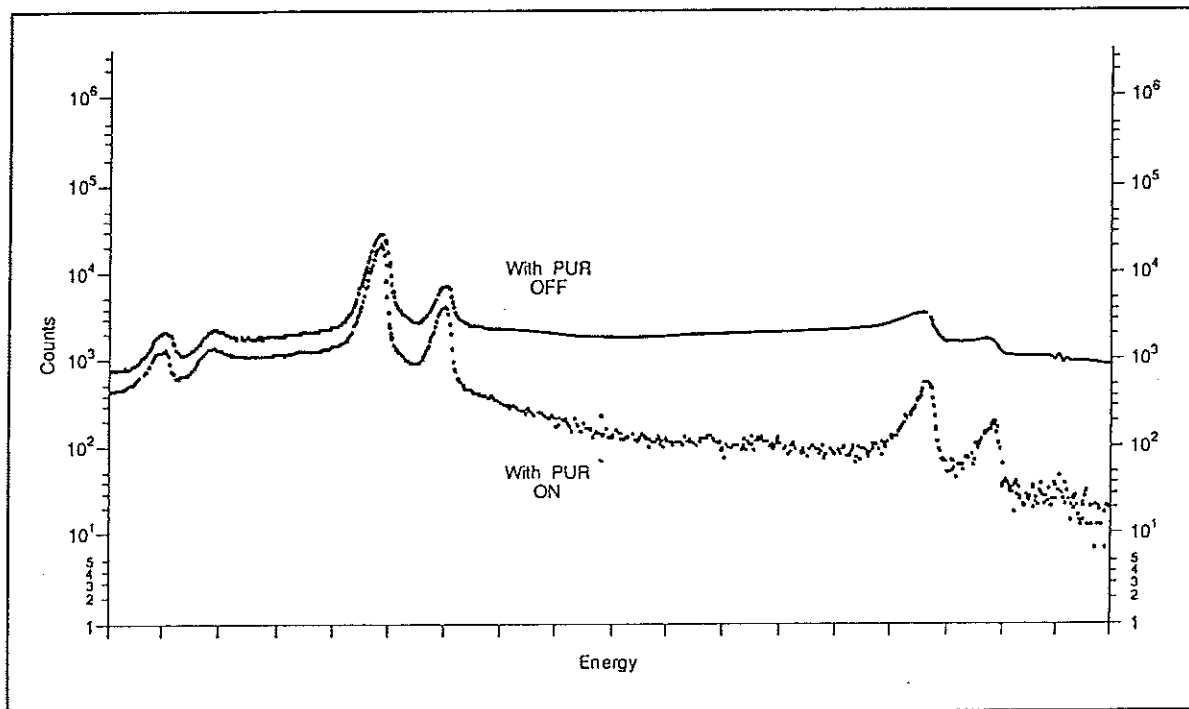

Figure 5.2  $^{60}\text{Co}$  Spectrum: PUR On vs. PUR Off
7. Accumulate a spectrum with the 1510 PUR ON/OFF switch *off*. Enable the MCA's Overlap function and compare the first half of the memory (PUR On) to that of the second half (PUR Off) (see Figure 5.2). Note the reduction in amplitude of both the sum peaks and the background. Also note the improved resolution of the sum peaks. The background reduction and improved resolution are directly indicative of the Pileup Rejector's capabilities, since only sum peak pulses which are indeed 100% in coincidence should be processed.